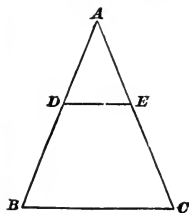

FIG. 27.
**57.** If a straight line be drawn through two sides of a triangle, parallel to the third side, a second triangle will be formed whose sides will be proportional to the corresponding sides of the first triangle. Thus, in the triangle  $ABC$ , Fig. 27, if the line  $DE$  be drawn parallel to the side  $BC$ , the triangle  $ADE$  will be formed and we shall have
EXAMPLE.—In Fig. 27, if  $AB = 24$ ,  $BC = 18$ , and  $DE = 8$ , what does  $AD$  equal?